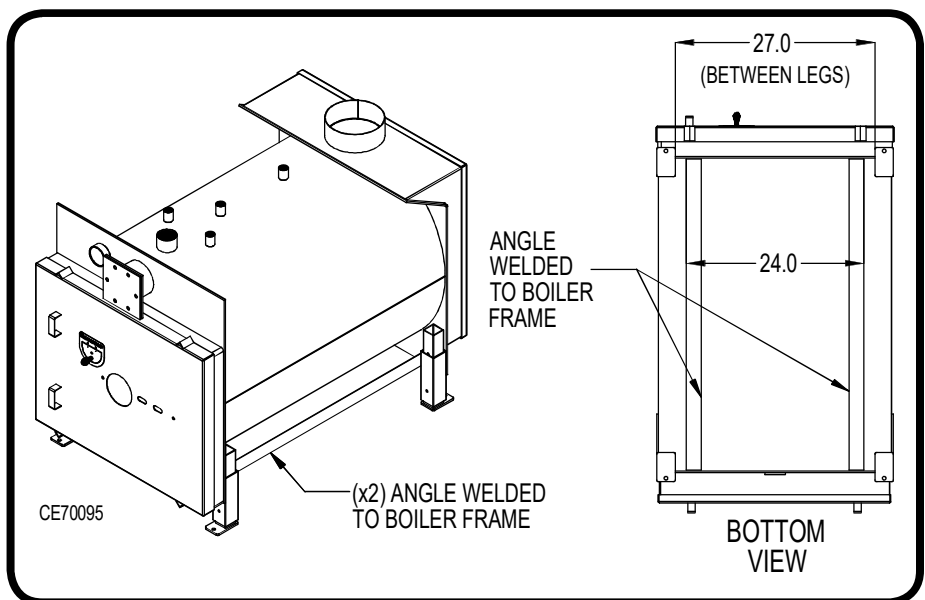

Figure 1: Boiler Shown Without Shrouding To Reveal Lifting Points
- (1) Refer to Figure 1.
- (2) There are two angles 24" apart to allow for easy lifting.
- (3) The boiler can be lifted from either side with a forklift or pallet truck.
- (4) The boiler can also be lifted from either the front or back. The legs are spaced 27" apart which allows the use of a standard pallet truck.